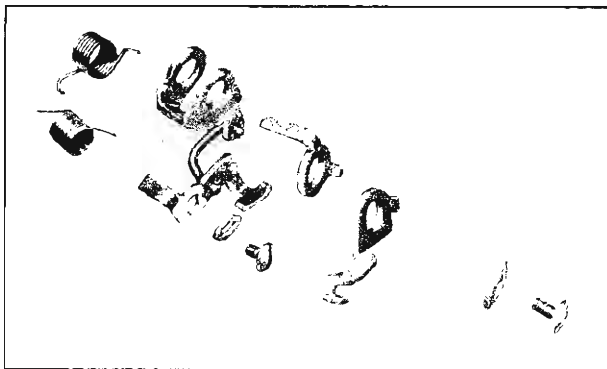

Fig. 41—Throttle Shaft Levers
2. Install primary throttle shaft dog levers and spring (fig. 41).